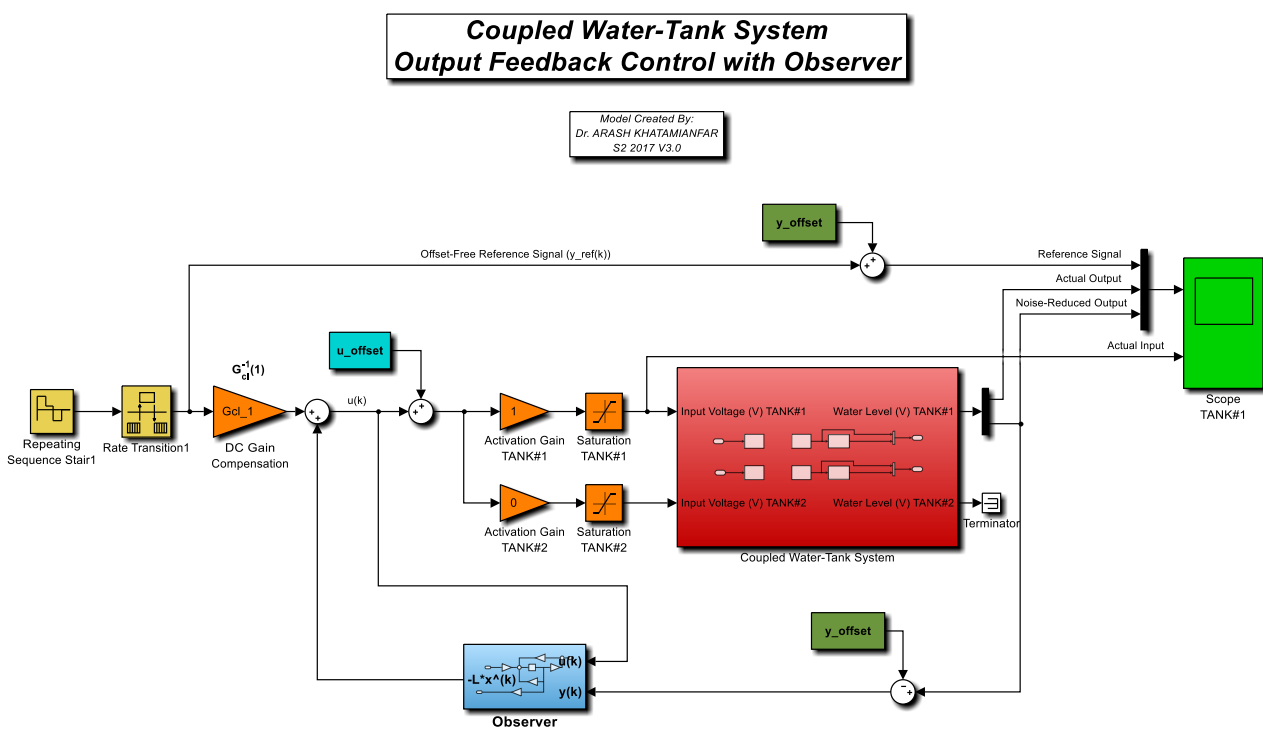

Fig. 1. Pre-built Simulink model for real-time output state feedback control with observer.
- a. When you are satisfied with simulation results, download the pre-built Simulink file named *WaterTankSysControl.slx* from Moodle. Set your model and controller parameter in the real-time model as shown in Fig. 1. The parameters are model matrices G , H , C ; state feedback gain L ; observer gain K ; inverse of close-loop DC gain $G_{cl}^{-1}(1)$ named as G_{cl_1} , and input and output offsets, u_offset and y_offset , respectively. You just need to assign them with their values in MATLAB Workspace as Simulink can read them from there. Moreover, you should change the default values in *Saturation TANK#1* block to V_{max} and V_{min} of your W-T setup. **Make sure to use state-space matrices G , H , C and D of the canonical observable form in the observer block.** In the Simulink model you will have variables G_obs , H_obs , C_obs and D_obs inside the Observer block. The values of the variables are $G_obs=G^T$, $H_obs=C^T$, $C_obs=H^T$, and $D_obs=D^T$.